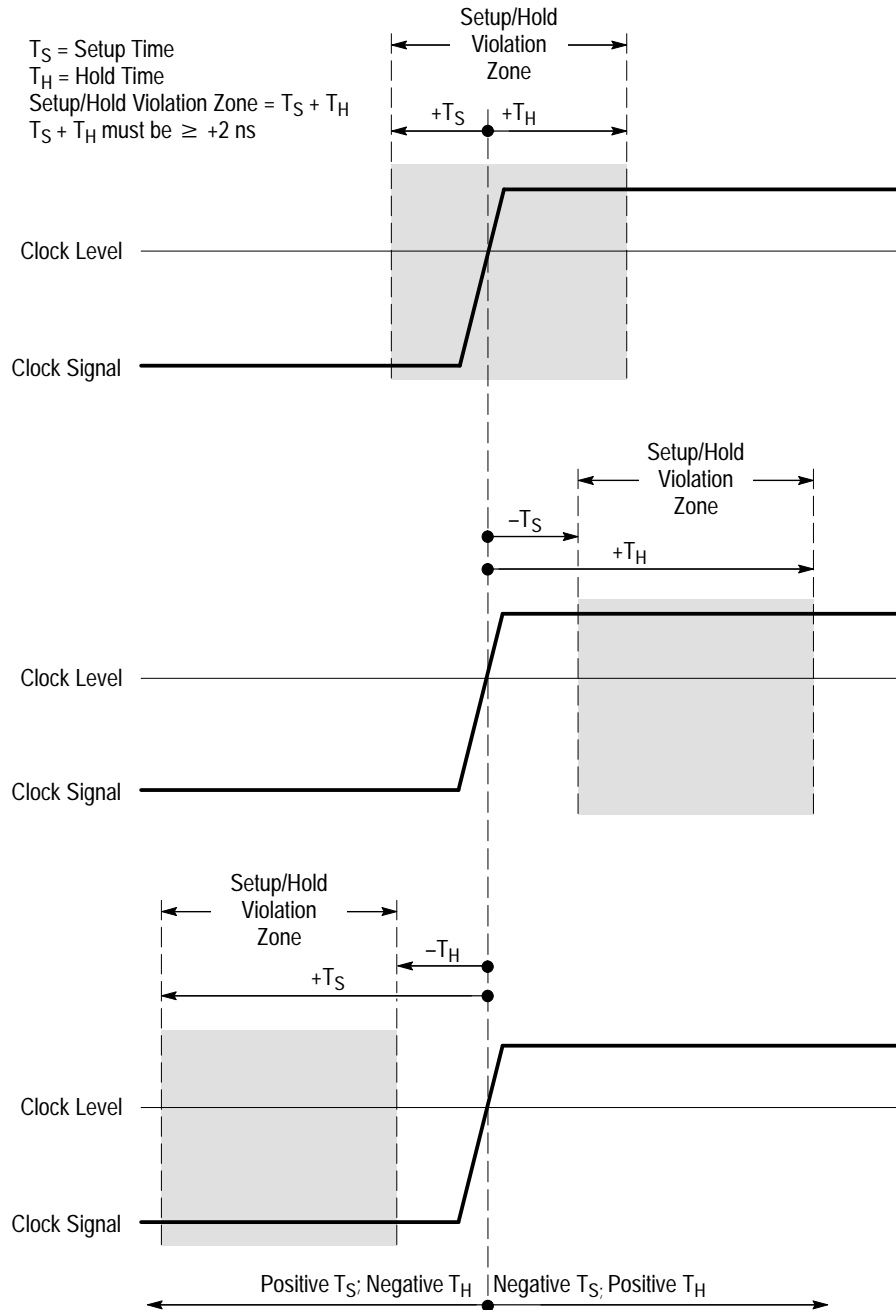

Figure 3–34: Violation Zones for Setup/Hold Triggering
*Positive* settings for both setup and hold times (the most common application) locate the setup/hold violation zone so it *spans* the clocking edge. (See the top waveform in Figure 3–34.) The oscilloscope detects and triggers on data that